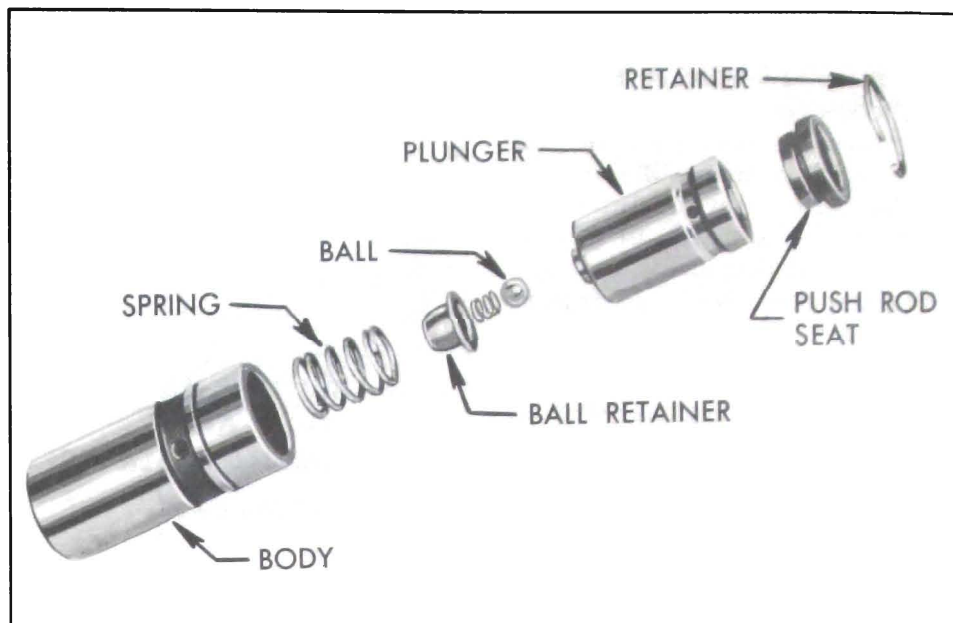

Figure 2-44—Hydraulic Valve Lifter Parts
2. Hold plunger in vertical position with feed hole up, then rinse and install the check ball, check ball spring, ball retainer, spring, and body over the plunger. See parts in Figure 2-44.